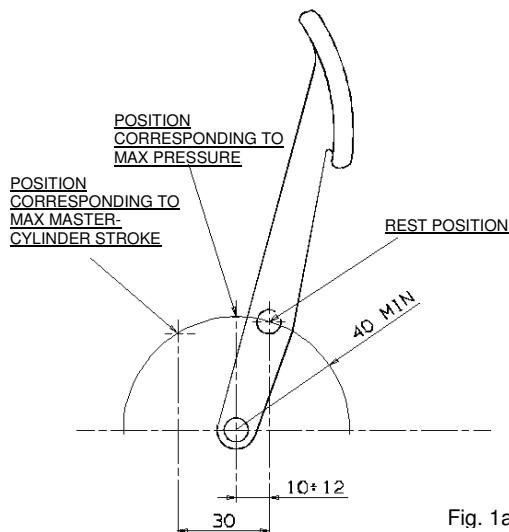

Fig. 1a
- b. For a more linear operation of the brake pedal/master-cylinder mechanism, it is important that the distance between the pedal fulcrum and the push rods is equal or greater than 40 mm (see Fig. 1a).